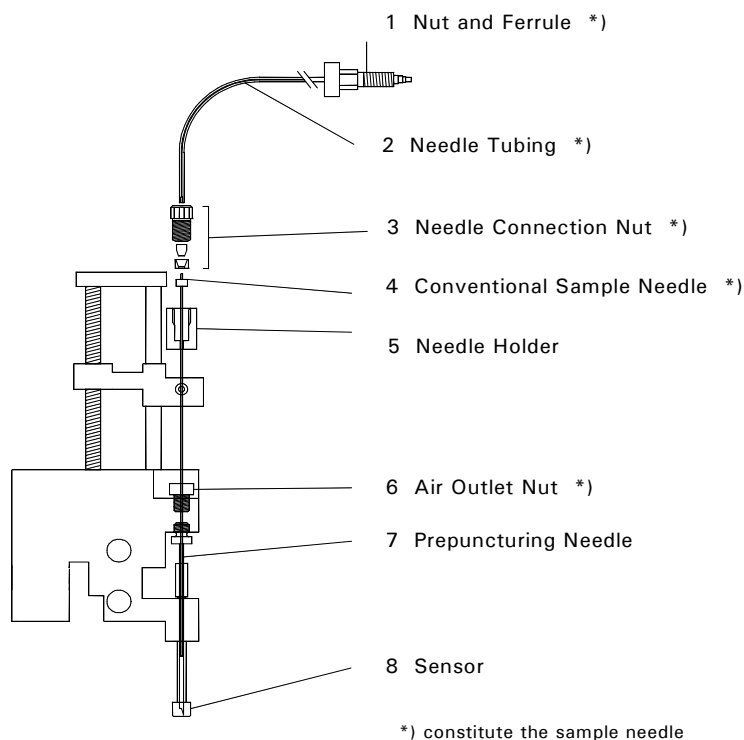

FIGURE 6-2. Needle Assembly
- **Sample needle:** placed inside the hollow prepuncturing needle; used for the actual transport of sample. Different types of needles can be used (see Section 6.6.2). If a needle with different diameter is used, a different air outlet nut (item 6, FIGURE 6-2) must be used that matches the injection needle. The fused silica needle (P/N 160116) is the default needle.
A schematic diagram of the needle assembly is shown in FIGURE 6-2 and a list of the optional needles is presented in TABLE 6-2 and TABLE 6-3.
- Loosen the needle connection nut (item 3, FIGURE 6-2).
- Loosen the VICI-Valco and ferrule nut (item 1, FIGURE 6-2).
- f) Connect the other end of the tube to port 4 of the VICI-Valco injection valve using a VICI-Valco nut and ferrule (item 1, FIGURE 6-2). Do not overtighten (to prevent block of tubing).